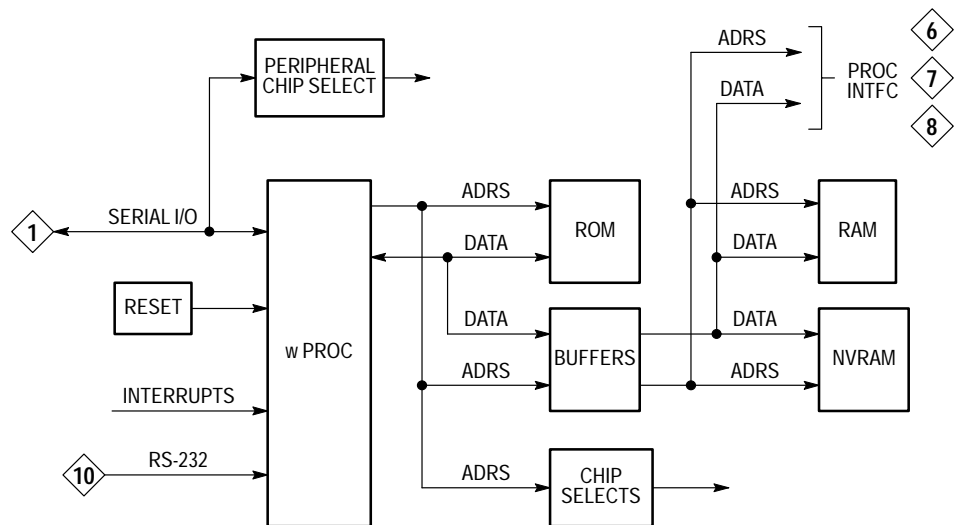

Figure 3–5: Microprocessor circuitry block diagram 5
The microprocessor, A2U72 (see Figure 3–5), receives information from three primary sources: (1) interrupt and timing signals from the video and display circuitry, (2) the rear panel RS-232 port, and (3) the serial interface signals, SCK, MISO, and MOSI, on the microprocessor. A2U82 buffers signals to and from the microprocessor. A2U71 provides a reset to the microprocessor on instrument power-up, or can provide a manual reset by shorting the pins on A2J8.
The DAC (see Figure 3–6), A2U46, uses signals from the microprocessor to generate analog control voltages for adjustable instrument functions. These voltage signals are buffered by parts of A2U47, A2U48, A2U49, A2U50, and A2U59. The serial latches, A2U51, A2U52, A2U53, and A2U54, receive serial data and control signals from the microprocessor to output mode-enabling analog-control logic to the rest of the instrument.